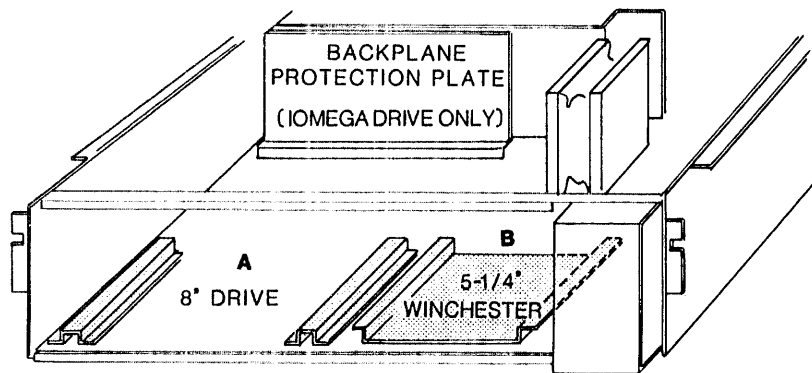

FIGURE 2-1: DRIVE MOUNTING LOCATIONS
Drives are mounted over rails in locations A or B shown in Figure 2-1. Fixed media drives are mounted in location B, and removable media drives are mounted in location A. The front panel includes a removable media access area for the specified devices to be installed in location B.
Several types of removable media drives can be installed in location A. A single full height or dual slimline 8" devices, such as floppy, cartridge tape, can be accommodated. Alternatively, single or dual slimline 5-1/4" removable devices can be installed; the 5-1/4" devices are mounted on a bracket different from the one shown in Figure 2-1..
1. Mount the 5-1/4" removable media drive over the mounting bracket in location A. Notice that the mounting bracket (P/N 500655) is different from the one shown in Figure 2-1.